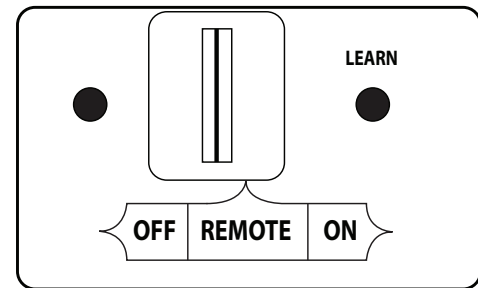

Fig. 37-2 Remote receiver (OFF for Manual Light)
1. Ensure the pilot is burning. If equipped, locate the 3-position switch on the remote receiver (see Fig. 37-2), and slide the switch to the **OFF** position.